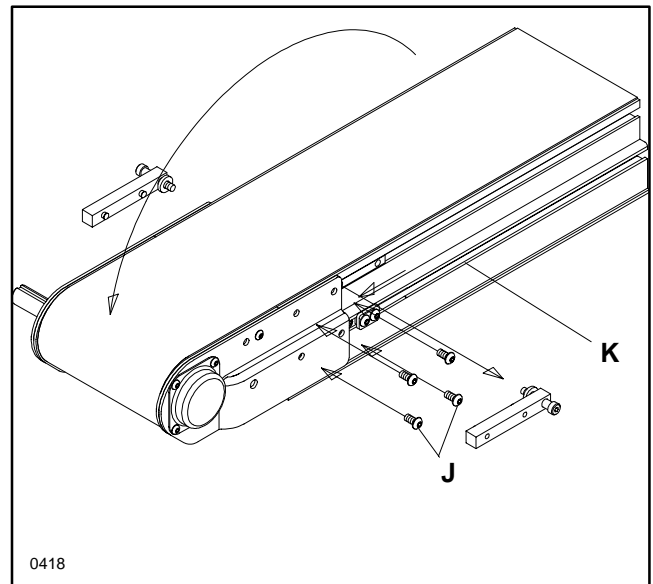

Figure 6
5. Rotate the tail installation tools around the shoulder screws (I), until the pins on the tools engage the holes in the tail section (used for mounting the upper T-bar).
6. Very carefully rotate the tail section down into position. Install the tail cover plate screws (J of Figure 6) through the tail cover plates into the lower T-bars. Screws are to be snug, but not tight at this time; screws will be tightly secured after proper conveyor belt tracking is adjusted.
7. Remove the tail installation tools. Slide the upper T-bars (K) under the tail cover plates. Install the upper cover plate screws.